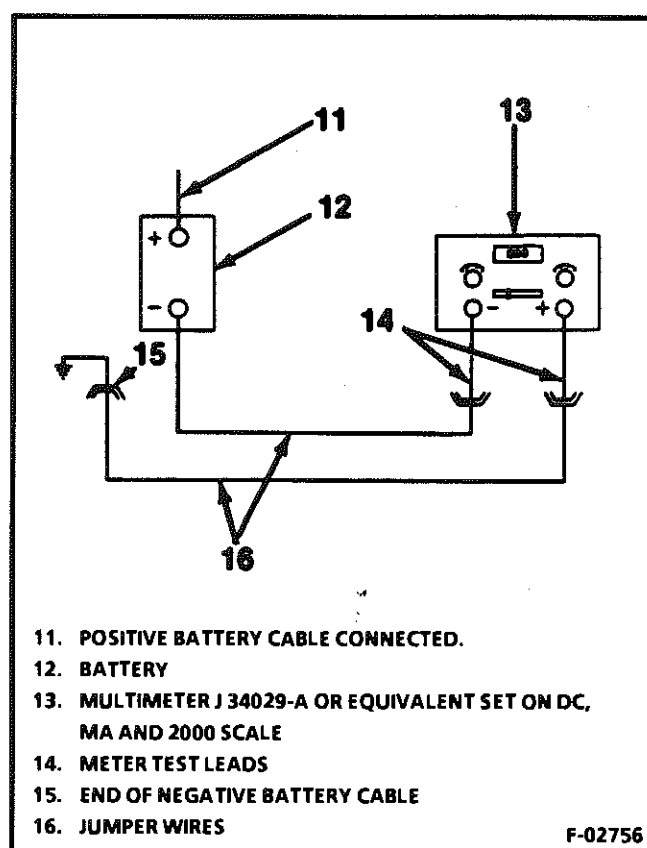

Figure 4 - Battery Drain Test Circuit
1. Clip of a jumper wire to the negative battery terminal adapter (Figure 4).